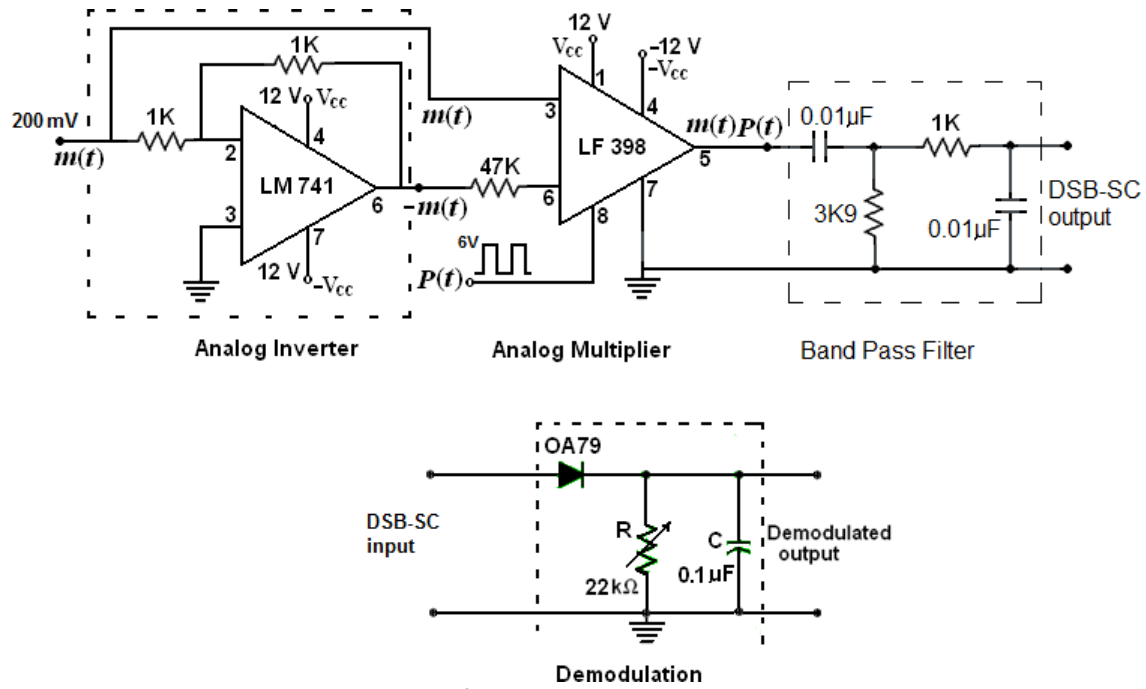

Fig 1. Circuit diagram of DSB-SC Modulation and Demodulation
1. Initially wire the circuit for analog inverter circuit as shown in Fig.1.
4. Now wire the analog multiplier circuit as shown in Fig.1.